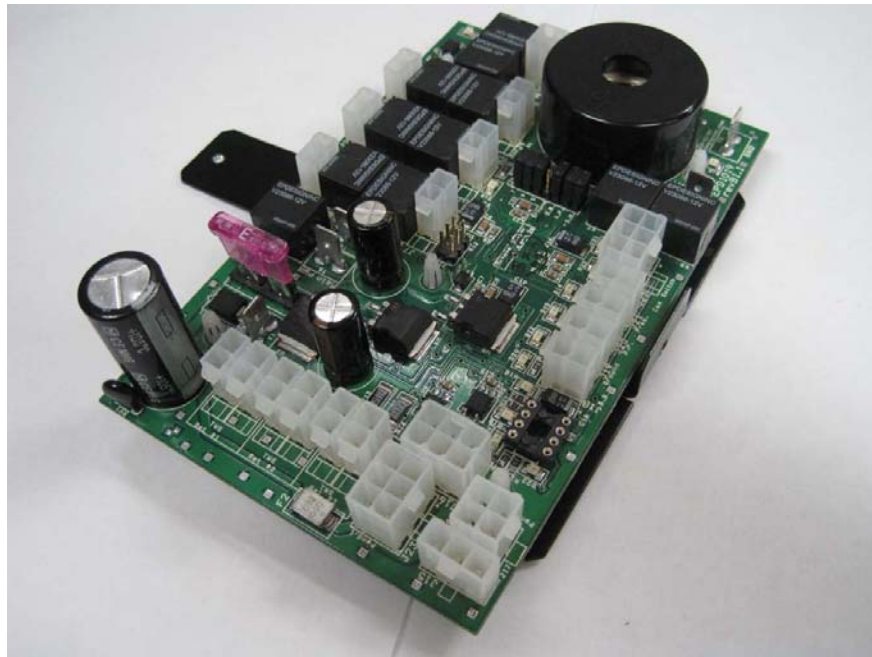

Figure 4. Remove PCB Assembly Bracket Screws
7. Refer to **Figure 4**. Remove PCB Assembly from pump chassis.